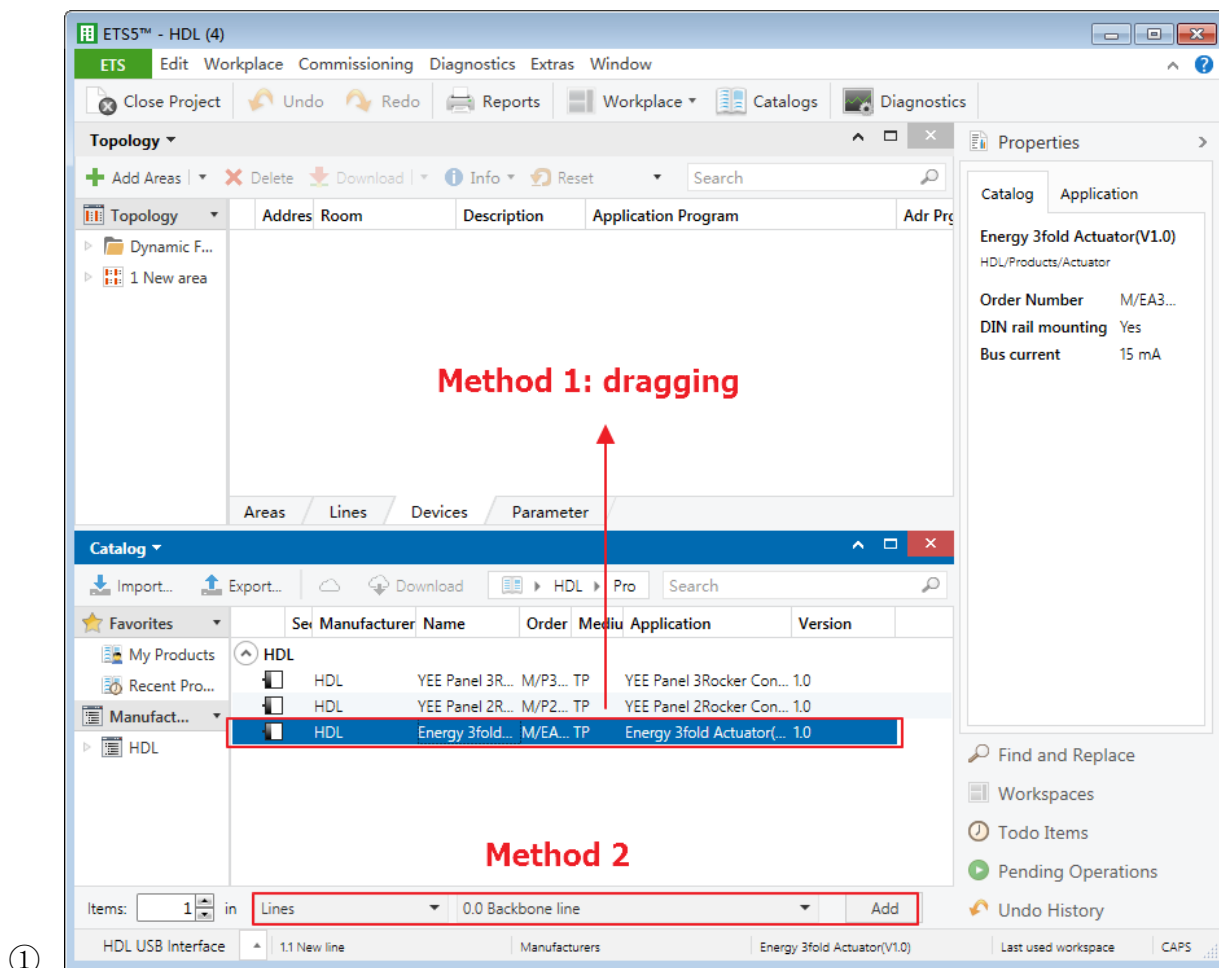

Figure 1-5 Add devices to projects
- ③ As shown in Figure 1-5, after selecting “HDL” in “Manufactures” column, select devices to be added to the project on the right. And drag devices to the above area (Method 1) or click “Add” button to add devices after clicking the location needed to add projects below (Method 2).